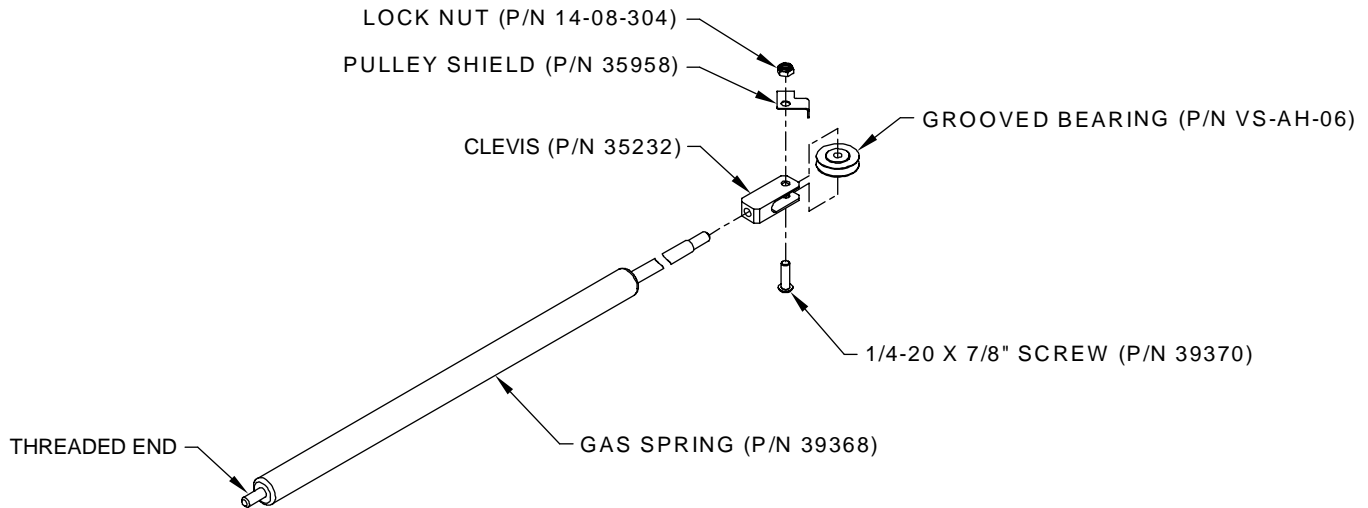

FIGURE 13
4. Refer to **FIGURE 13**. Install clevis (P/N 35232) onto gas spring (P/N 39368).
5. Refer to **FIGURE 13**. Assemble grooved bearing (P/N VS-AH-06), pulley shield (P/N 35958) and attaching parts onto clevis (P/N 35232). Do not tighten.